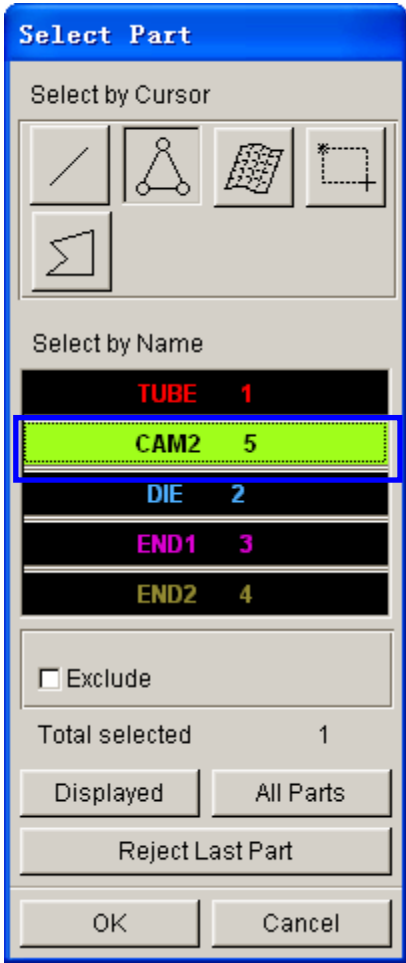

Figure 3.16 Select part dialog box
6. Select **CAM2** part from the SELECT PART dialog box illustrated in Figure 3.16.